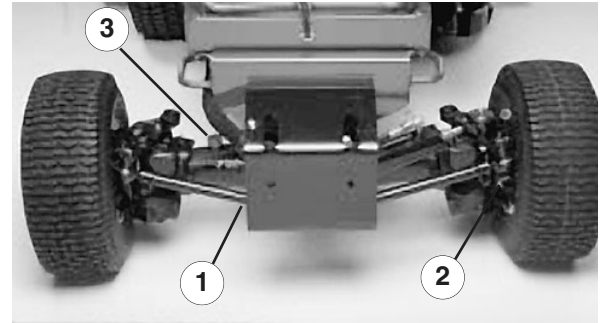

Figure 7
2. Remove the check plugs from the axle and make sure lubricant is up to the bottom of each hole. If the level is low, remove the fill plugs and add enough lubricant to bring the level up to the bottom of the check plug holes (Fig. 7).